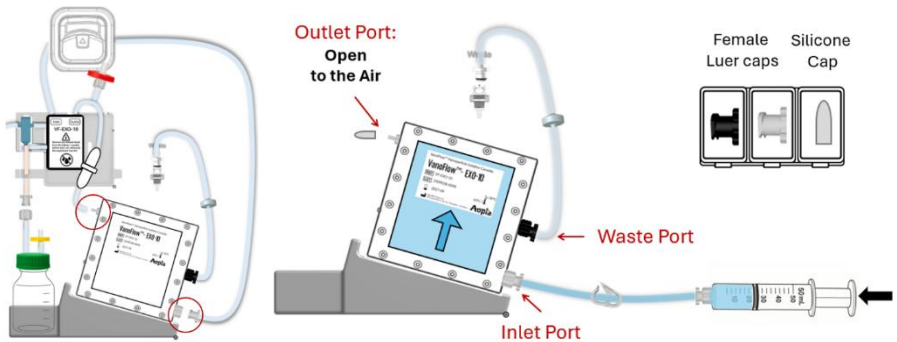

Figure 2 - Cassette storage for future use
- If planning to reuse the cassette, disconnect only the tubing indicated by **Red Circles** in Figure 2(left) and keep the other tubing connected.
- Using a **50 mL syringe**, slowly inject **~30ml storage buffer** (0.05M HCl) into the cassette as shown in Figure 2(right). When the buffer reaches the Outlet Port, cap the **Outlet Port** with a silicone cap.